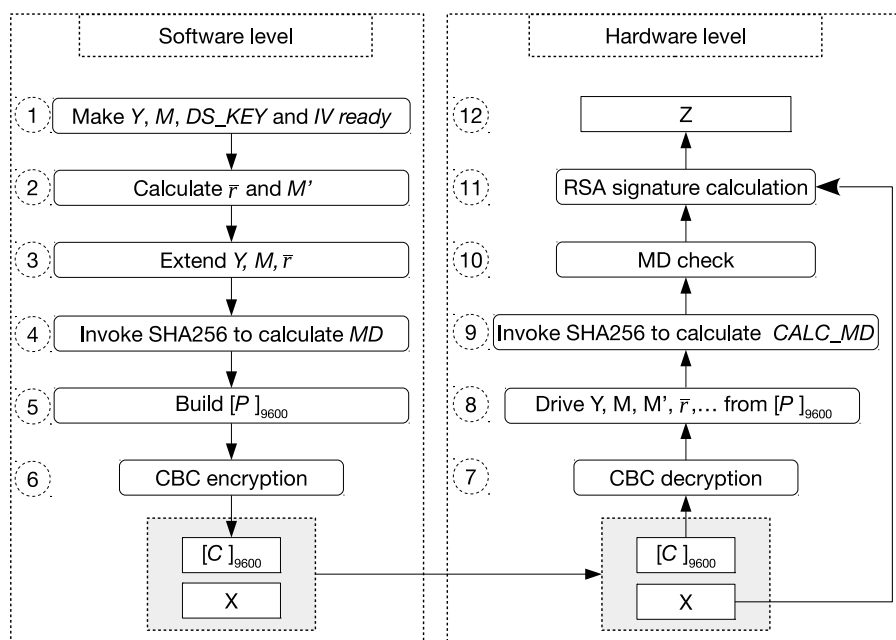

Figure 22.3-1. Software Preparations and Hardware Working Process
1. The software preparation (left side in the Figure 22.3-1) is a one-time operation before any signature is calculated, while the hardware calculation (right side in the Figure 22.3-1) repeats for every signature calculation.
You need to follow the steps shown in the left part of Figure 22.3-1 to calculate C . Detailed instructions are as follows:
1. Decryption: Step 7 and 8 in Figure 22.3-1
The decryption process is the inverse of Step 6 in figure 22.3-1. The RSA_DS peripheral will call AES accelerator to decrypt C in CBC block mode and get the resulted plaintext. The decryption process can be represented by $P = \text{AES-CBC-DEC}(C, \text{RSA_DS_KEY}, IV)$, where IV (i.e., $[IV]_{128}$) is defined by you. $[\text{RSA_DS_KEY}]_{256}$ is provided by HMAC module, derived from HMAC_KEY stored in eFuse. $[\text{RSA_DS_KEY}]_{256}$, as well as $[\text{HMAC_KEY}]_{256}$ are not readable by users. For more information, please refer to Chapter 19 HMAC Accelerator \(HMAC\).
2. Check: Step 9 and 10 in Figure 22.3-1
The RSA_DS peripheral will perform two checks: MD check and padding check. Padding check is not shown in Figure 22.3-1, as it happens at the same time with MD check.
3. Calculation: Step 11 and 12 in Figure 22.3-1